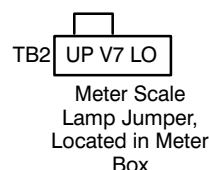

Figure 3. Generator Connections
- Route generator leads through current transformers for connection to bus bars as shown in Figure 3, according to system voltage specified in plans. Connect generator leads to bus bars as shown in Figures 2 and 3.